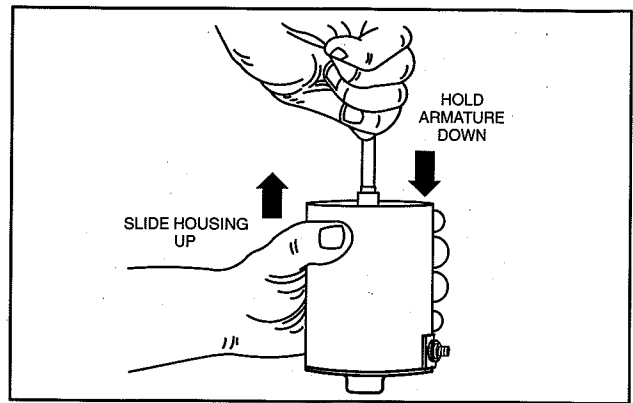

Fig. 19 – Removing Motor Housing
2. Hold the armature and commutator end cap against a work surface while sliding housing off the armature, Fig. 19.